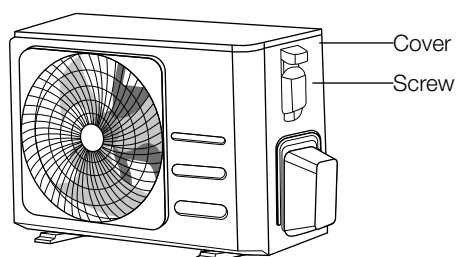

Fig. 9.1
2. Remove the electric cover of the outdoor unit. If there is no cover on the outdoor unit, take off the bolts from the maintenance board and remove the protection board. (See Fig. 9.1)